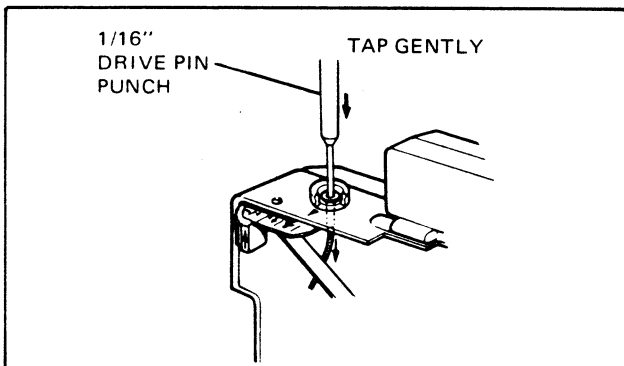

FIG. 5.23 DRIVING OUT THE CABLE HOUSING
4. Insert a 1/16ths inch drive pin punch into the bushing and gently tap the punch (Figure 5-23). This should open the crimp